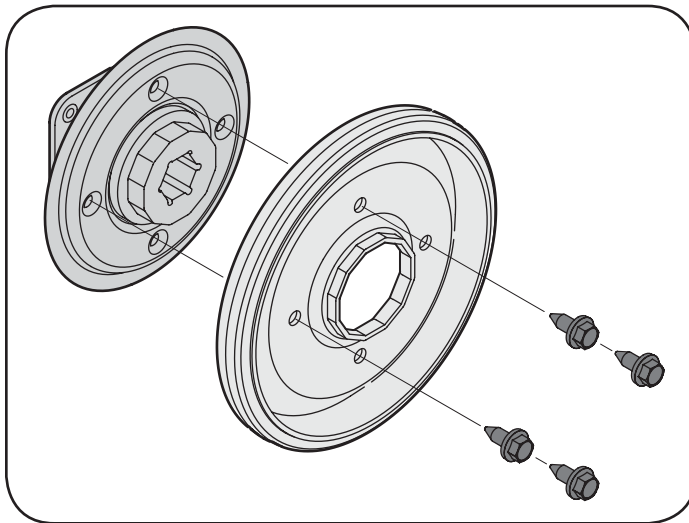

Figure 39
7. Remove four screws securing the friction wheel to the hub assembly (refer to Figure 39). Discard old friction wheel.